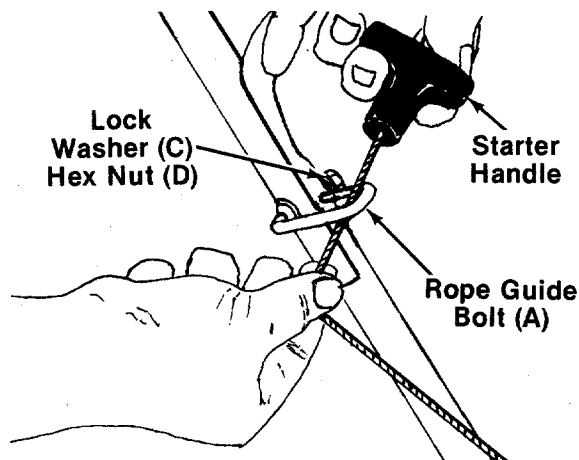

FIGURE 5.
- Insert the rope guide bolt (A) through the right hand side of upper and lower handle.
- Slip the starter rope into the rope guide bolt as shown in figure 5. If more slack is needed in the starter rope, disconnect and ground the spark plug wire. Depress the blade control handle and pull additional rope out from the engine.